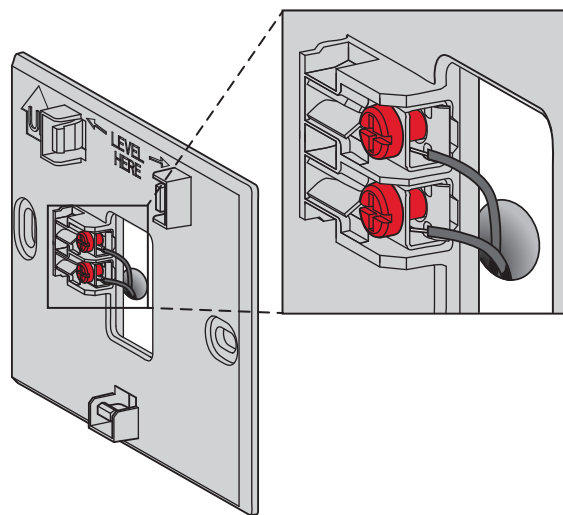

Fig. 20. Inserting wires in thermostat terminal screws (THX9421).
1. Wire to C and R terminals of the EIM or to a separate 24 volt transformer (not provided). See Fig. 20.
1. Wire to C and R terminals of the TrueZONE panel or to a separate 24 volt transformer (not provided). See Fig. 20.